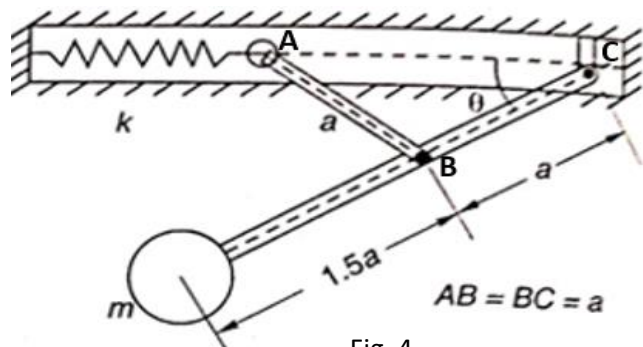

Fig. 4
4. For the device shown in Fig. 4, the spring is unstretched for $\theta=0^\circ$. Write the expression for potential energy of the system when the link rotate by an angle θ . Determine the stiffness K of the spring which will establish an equilibrium configuration in the virtual plane for angle θ . The mass of the link is negligible in comparison to the mass m at the end of the link. Take $m = 5$ kg and $a = 0.5$ m.